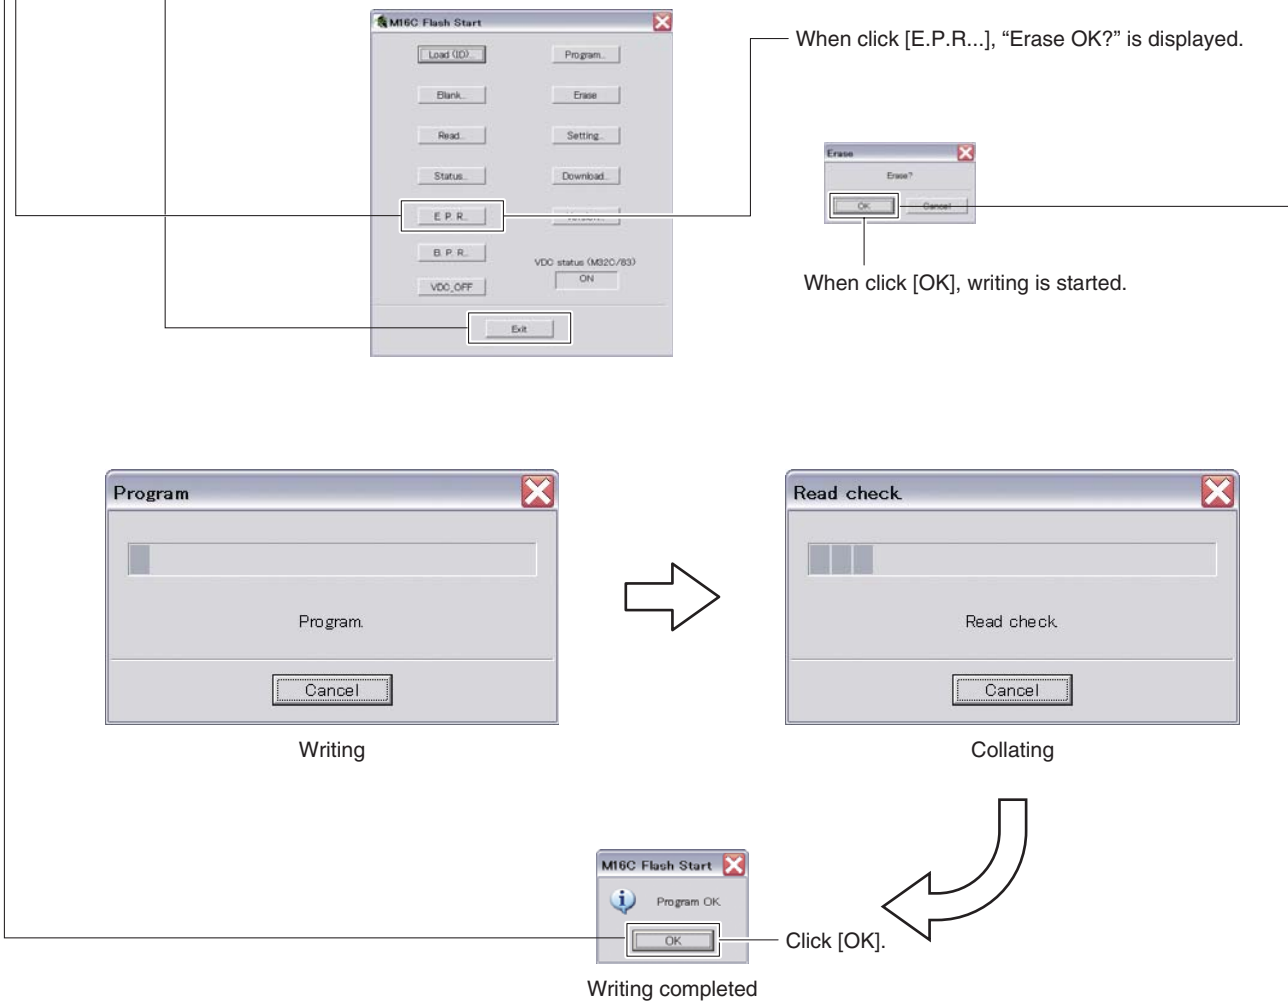

Fig. 4
10. "M16C Flash Start" is displayed. (Fig. 4)
Click [E.P.R...], then "Erase OK?" is displayed. (Fig. 4)
Click [OK], then writing is started. (Fig. 4)
11. When writing is completed, "Program OK." is displayed. (Fig. 4)
Click [OK]. (Fig. 4)
12. Click [EXIT] to end "FlashSta.exe". (Fig. 4)